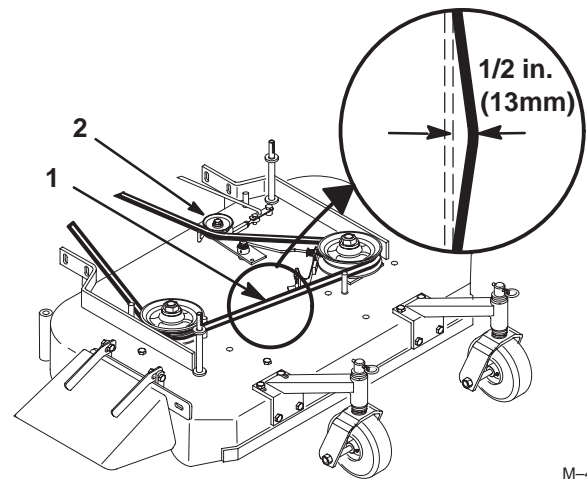

Figure 46
4. Remove mower belt (Fig. 46).
8. Install the mower belt (Fig. 46).
4. Remove idler pulley and then remove worn belt (Fig. 46).
Note: Proper belt tension is 10–15 lbf. (44–67 N) with the belt deflected a 1/2 in. (13mm) halfway between pulleys (Fig. 46).